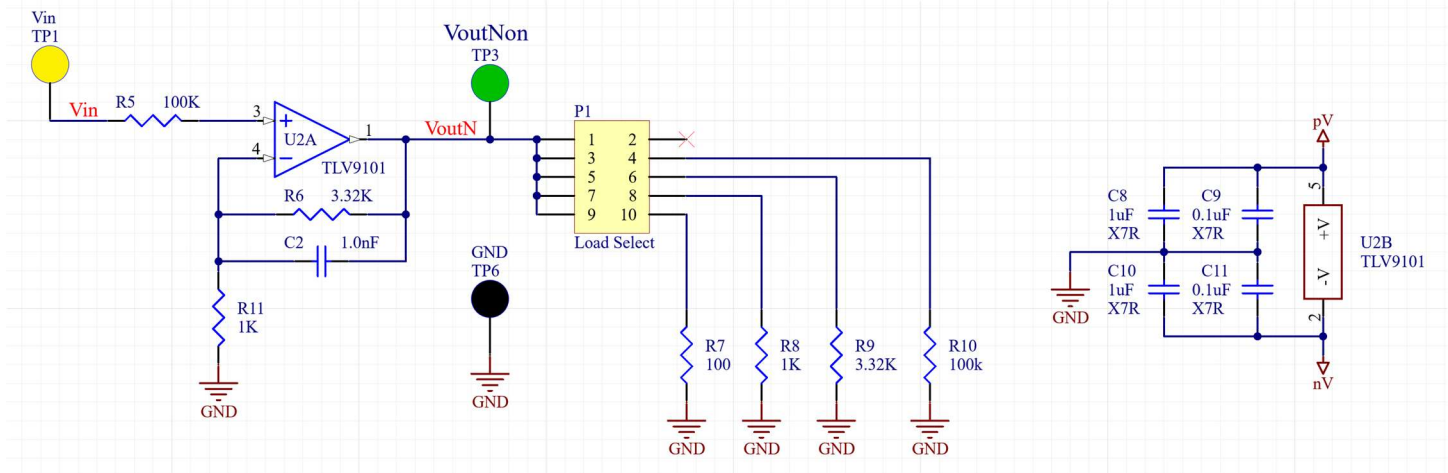

Figure 2: Schematic of the non-inverting amplifier on the PCB
The second circuit we will use is the low gain, Non-Inverting circuit. The schematic is shown in Figure 2.
3. **Use the DMM or Scope** to measure Vin and V_{OutNon} for the different **DC** Vin voltages listed in Table 2 using the circuit shown in Fig. 2. Use the DMM on DC or AVG Full Screen measurement on the Scope for these measurements. Remember you must set the Wav Gen Offset to put out DC corresponding to the DC input voltages as you go. When measuring DC on the scope put the GND for the channel near the top or bottom of the screen and the DC voltage at the other end. Do this by adjusting the sensitivity (V/Div) and the display offset. Use averaging on the scope. These settings will give you the best accuracy.
4. Qualitatively observe the output resistance of the op amp circuit. This circuit is the one in Figure 2 In this case qualitative means: See if the output voltage changes when the load resistor changes. You will do this by measuring V_{OutNon} with the scope.
5. Voltage clipping limits: Set V_{IN} to a $3V_{PP}$, 1KHz sine wave with no offset. You are using the Non-Inverting OpAmp circuit shown in Fig. 2, observe V_{OUTNon} on the Scope. Use $R_{LOAD} = \infty\Omega$ (No Load). You will use the **scope** to measure the flattened (clipped) voltage levels.
7. Output current limit: Use the circuit from Figure 2. Use an R_{LOAD} of 100Ω .